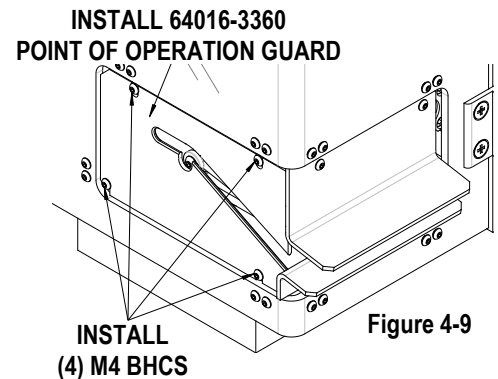

Figure 4-9
1. Install the Point of Operation Guard assembly (Order number 64016-3360) into the threaded holes in the (4) mounting brackets (64016-2523) with (4) M4 BHCS. See Figure 4-9.